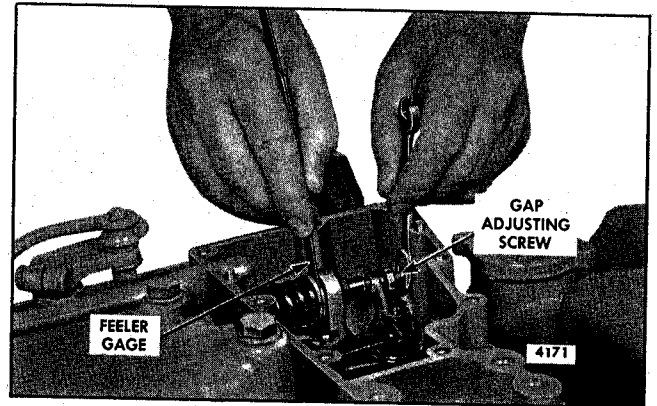

Fig. 23 - Adjusting Governor Gap
4. Insert a .006" feeler gage between the spring plunger and the plunger guide as shown in Fig. 23. If required, loosen the lock nut and turn the adjusting screw in or out until a slight drag is noted on the feeler gage.